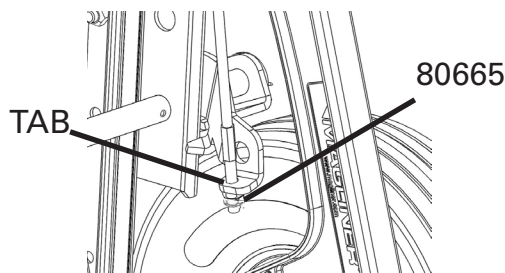

Figure 7
1. Insert each of the lower ends of the Y-cable in the holes located on the extending lever tabs (TAB) of each brake paddle as illustrated in Figure 7.